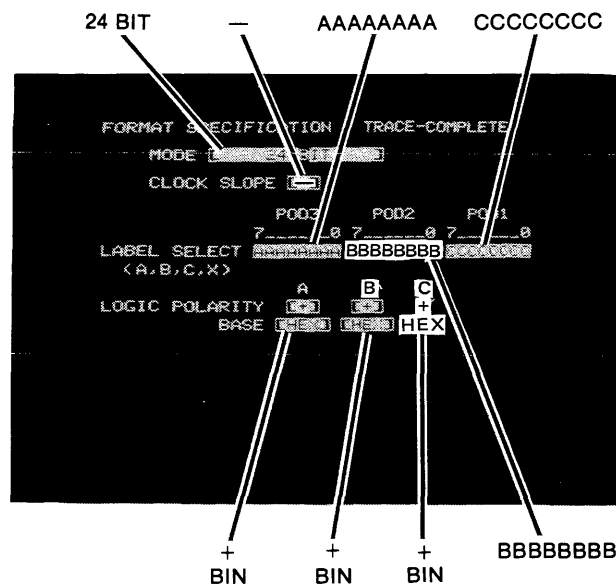

Figure 4-13. Trigger/Trace Point Outputs Format Specification
- c. Use CURSOR keys to move cursor to each field in menu. Set up menu according to figure 4-13.